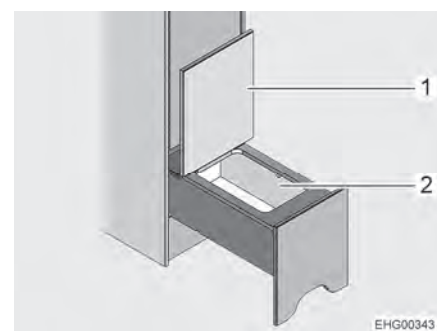

Fig. 82 Storage compartment
- Fold the lid (Fig. 82,1) up. The storage compartment (Fig. 82,2) is accessible.